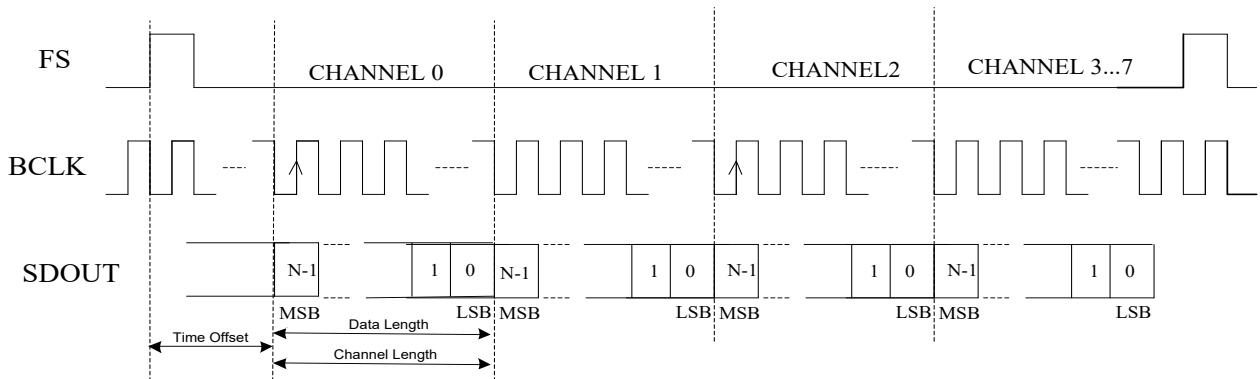

Figure 33 PCM Time Offset Audio Data
Normally, the DAC and ADC data are clocked immediately after the Frame Sync (FS). In this mode, audio data are delayed by a delay count specified in the device control registers. PCM Time Offset Mode typically set **0x0B[8].FRAME_START=1'b0**. Channel 0 MSB is clocked on the BCLK rising edge defined by the delay count set in **0x0B[6:2].RX_OFFSET** for TDM RX or **0x0D[11:9].TX_OFFSET** for TDM TX. The subsequent channel's MSB is clocked on the next BCLK after the LSB of the previous channel. This can be seen in Figure 33.